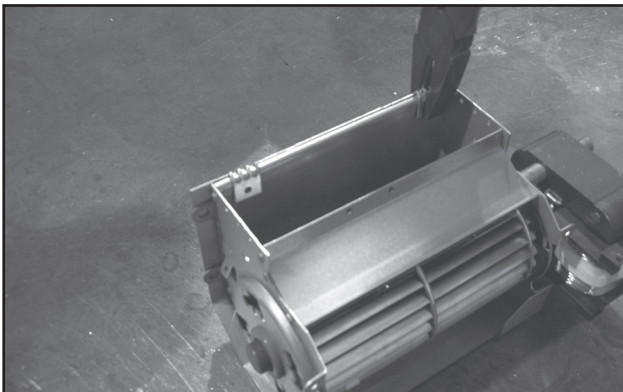

Figure 2 Crimp Bracket Tabs
- Use pliers to crimp the bracket tabs around the fan housing. See Figure 2.